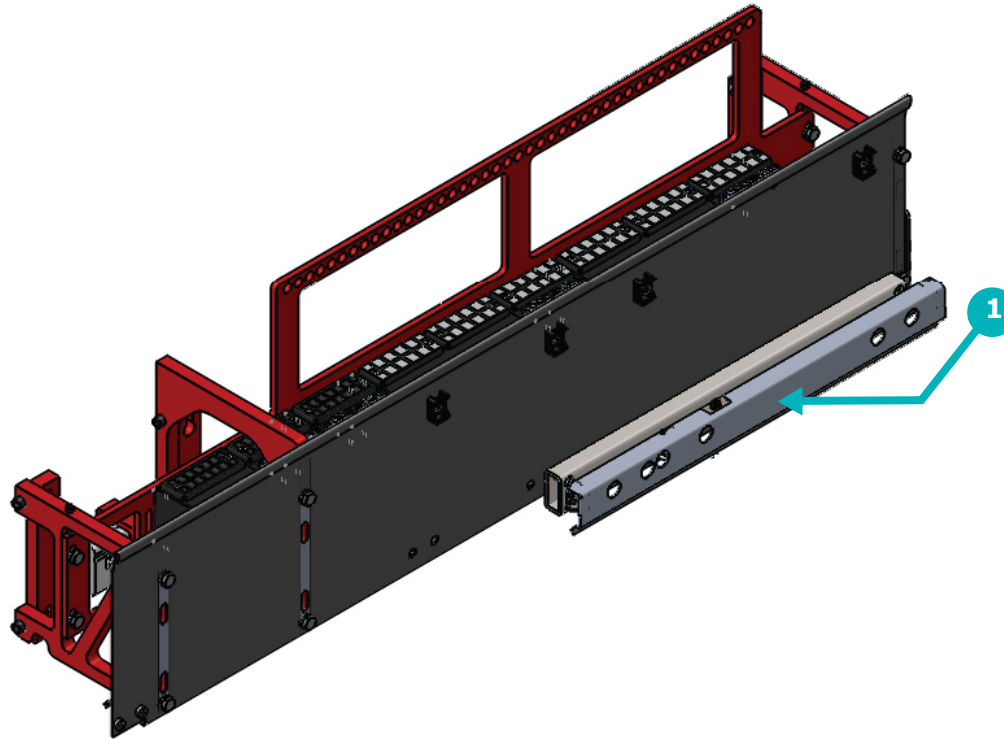

Figure 2-47: Collision Detection Bar (items removed for clarity)
- E. Wipe down the LH collision detection bar, item 1 in Figure 2-47, with a wipe dampened with IPA.